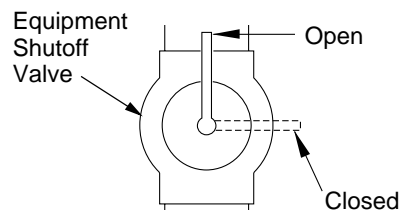

Figure 21 - Equipment Shutoff Valve
1. Close equipment shutoff valve (see Figure 21).
1. Open equipment shutoff valve (see Figure 21).